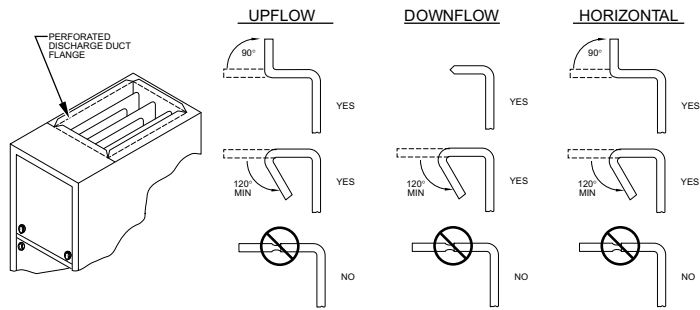

Fig. 20 – Duct Flanges
Connect supply-air duct to flanges on furnace supply-air outlet. Bend flange upward to 90° with wide duct pliers. See Fig. 20. The supply-air duct must be connected to ONLY the furnace supply-outlet-air duct flanges or air conditioning coil casing (when used). DO NOT cut main furnace casing side to attach supply air duct, humidifier, or other accessories. All supply-side accessories MUST be connected to duct external to furnace main casing.
**NOTE:** It is recommended that the perforated supply-air duct flanges be completely removed from furnace when installing the furnace on a factory-supplied cased coil or coil box. To remove the supply-air duct flange, use wide duct pliers or hand seamers to bend flange back and forth until it breaks off. Be careful of sharp edges. See Fig. 20.
Connect supply-air duct to supply-air outlet on furnace. Bend flange inward past 90° with wide duct pliers. See Fig. 20. The supply-air duct must be connected to **ONLY** the furnace supply outlet or air conditioning coil casing (when used). When installed on combustible material, supply-air duct must be connected to **ONLY** the factory-approved accessory subbase, or a factory-approved air conditioning coil casing. **DO NOT** cut main furnace casing to attach supply side air duct, humidifier, or other accessories. All supply-side accessories **MUST** be connected to duct external to furnace casing.